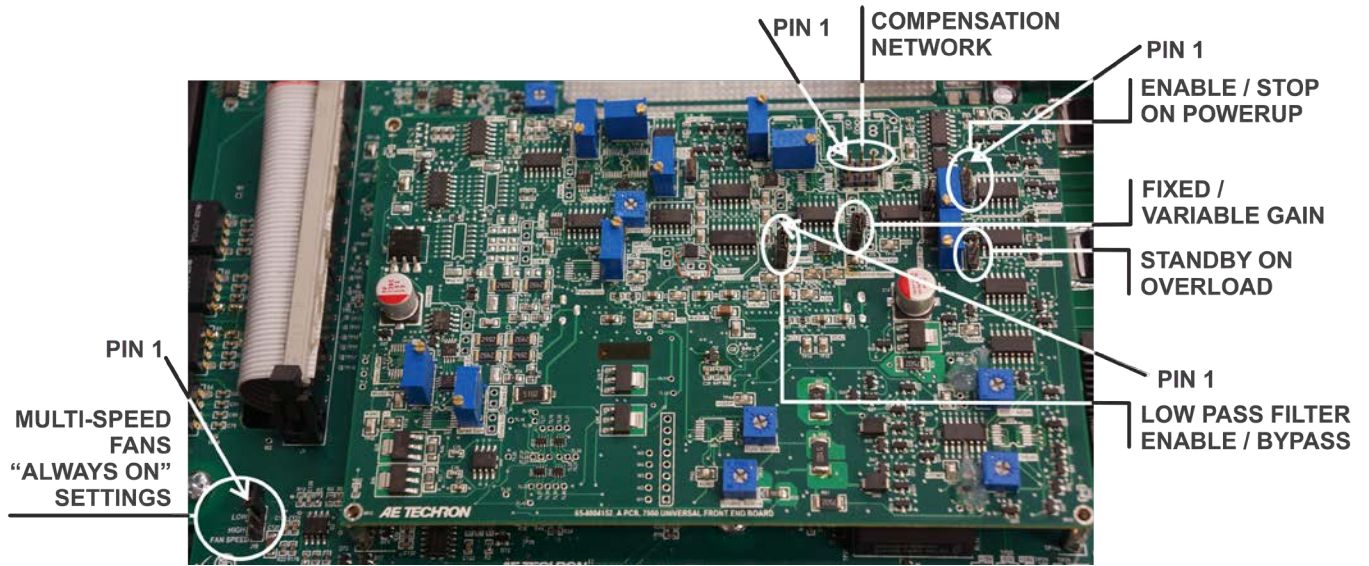

Figure 5.5 – UFEB and Interconnect Board Jumper Locations
Refer to **Figure 5.5** for UFEB and Interconnect board jumper locations.
To change the compensation network, locate the Compensation Network jumper (see Figure 5.5). When **pins 1 and 2** are jumpered (factory default), network **CC1** is enabled (75k ohm and 47 nF). To select network **CC2**, place the shunt on the jumper across **pins 2 and 3**.
Enable/Stop jumper (default setting). See Figure 5.5. To cause the 7228 amplifier to enter **Standby (Stop Mode)** on power-up, place the shunt across **pins 2 and 3**.
The 7228 amplifier ships with an enabled Gain Control knob, which is located on the amplifier front panel. To disable the **Variable Gain** control and set for a **Fixed Gain**, locate the Gain Control Bypass jumper and place a **shunt across the two pins** at that location. See Figure 5.5.
The 7228's IOC (Input/Output Comparator) Distortion Alert circuit continuously compares the waveforms observed at the amplifier input and output. When a distortion between the two waveforms of more than 0.5% occurs, the IOC circuit will activate, and the Overload LED will light, but the amplifier will continue to operate. To configure the 7228 to move to **Standby (Fault mode)** when the IOC circuit is activated, locate the Overload Latch (see Figure 5.5) and place a shunt across the two pins of the jumper.
To enable the low pass filter, locate the Low Pass/LP Bypass jumpers (see Figure 5.5) and move the shunt from **pins 2 and 3** (LP Bypass) and place across **pins 1 and 2** (Low Pass).
3. Locate the Fan Speed Jumper (**J19**) on the Interconnect Board (see **Figure 5.5**).